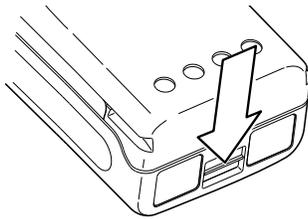

Figure 3-1.
1. Locate the battery latch on the bottom of the radio. Push the battery latch toward the front of the radio and hold it in the open position as shown in Figure 3-1.